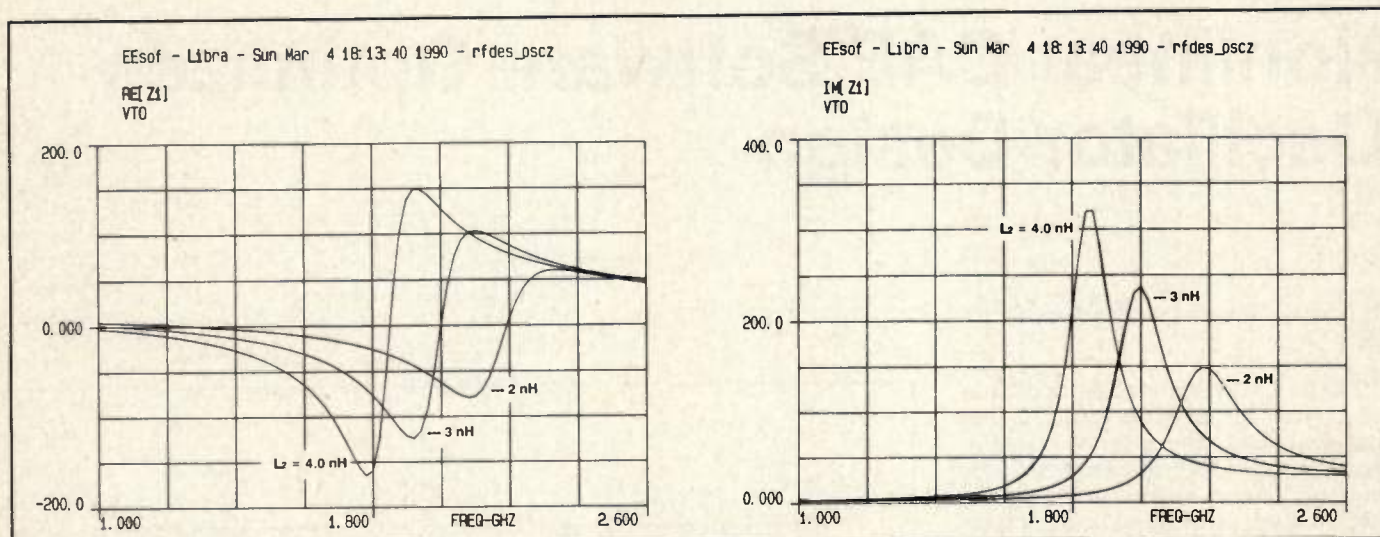

Figure 2. Plots of  $R_i$  and  $X_i$  versus frequency for the 2 GHz oscillator example.
impedance presented by the varactor. The threshold for circuit oscillation occurs when the impedance sum at plane 1-1' is zero (1):  $R_V + R_1 = 0$ ,  $X_V + X_1 = 0$ . Note that at this point of threshold oscillation, circuit conditions are linear, so a linear CAE simulator like Touchstone can be utilized. While the equations must be precisely satisfied at the exact threshold of oscillation, it is also clear that a linear circuit analysis that finds net negative resistance over the desired frequency range will assure that the circuit is capable of oscillating over that range. Figure 2 shows plots of  $R_1$  and  $X_1$  versus frequency for our assumed circuit example. The simulations show that a net negative resistance is observed as the transistor base circuit inductance  $L_2$  is selected for operation at frequencies in the desired operating range. The use of Touchstone to define oscillation starting conditions in this way is well known and has been documented earlier (2).